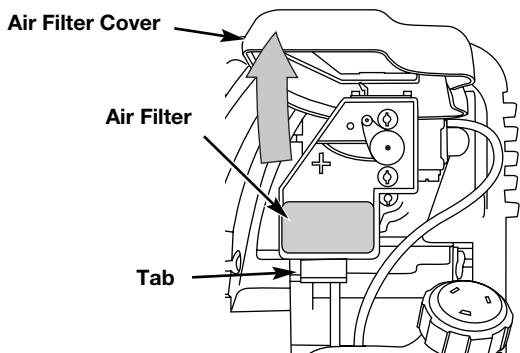

Fig. 26
1. Open the air filter cover. Push the tab on the under side of the cover inward. Then pull the air filter cover out and up from the bottom of the cover (Fig. 26).
2. Remove the air filter (Fig. 26).
6. Replace the filter (Fig. 26).